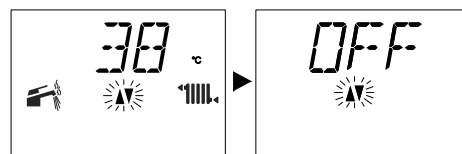

Figure 5.10
- Signal given by the LCD display Figure 5.10.